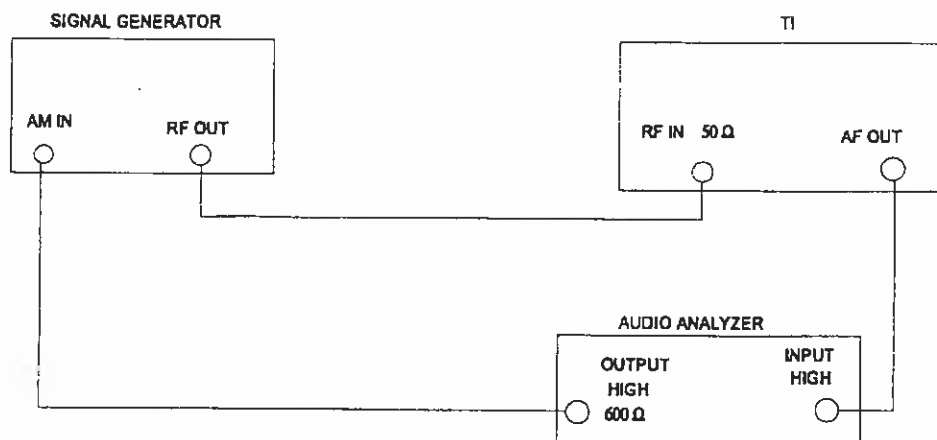

Figure 3.
4.4.1 Connect equipment as shown in Figure 3.
4.5.1 Perform AM Audio Distortion calibration with equipment connected as in Figure 3.
4.6.1 Perform the audio frequency response 15 kHz test, with equipment connected as in Figure 3.
4.6.12 Disconnect equipment shown in Figure 3.